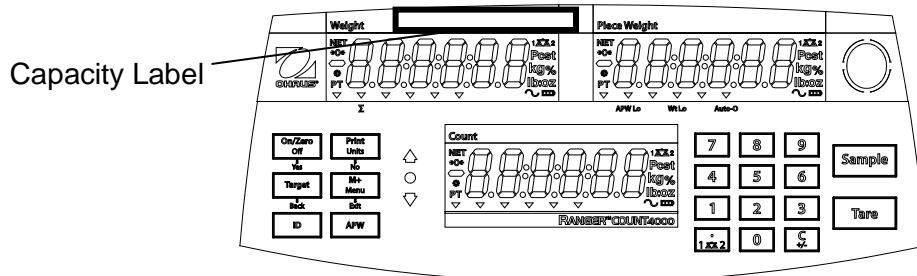

Figure 5-1. Capacity Label location
A label showing the capacity and readability of the scale must be installed near each display. If the Capacity Labels were installed prior to delivery, no further action is needed. If the Capacity Labels were not installed, they have been placed in the packaging material. Affix the labels above the displays as shown in Figure 5-1.
3. Set the switch to Locked. See figure 5-1.